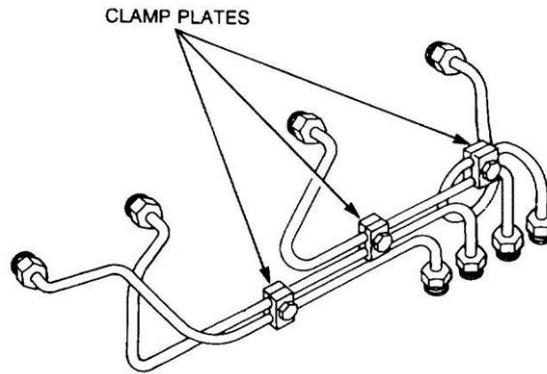

Figure 28 Clamp Plate Location
- t. Install the fuel lines between the injector pump and the fuel injectors and torque the bolts to 28 to 31 N.m (21 to 23 lbf.ft). Install the fuel line clamp plates and tighten them securely (Figure 28).